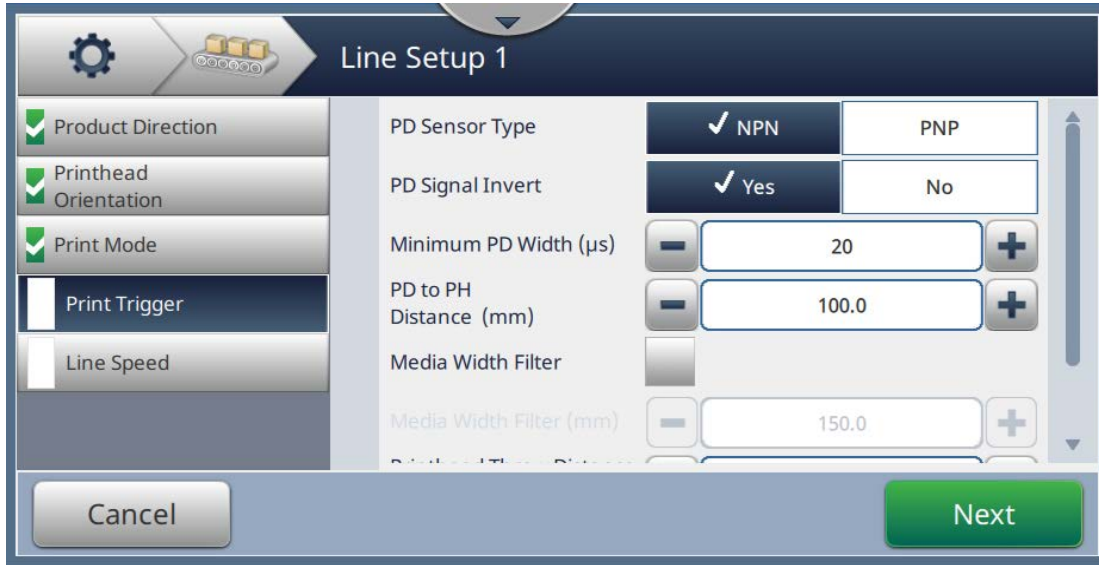

Figure 6-34: Line Setup - Print Trigger
1. Touch the option *Print Trigger* in the Line Setup Setting screen as shown in Figure 6-34.